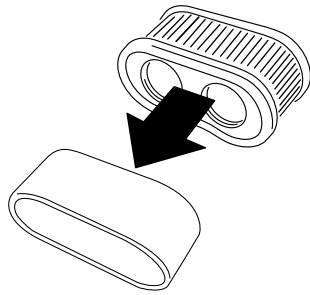

Figure 35
7. Remove the foam element from the paper element (Figure 35).